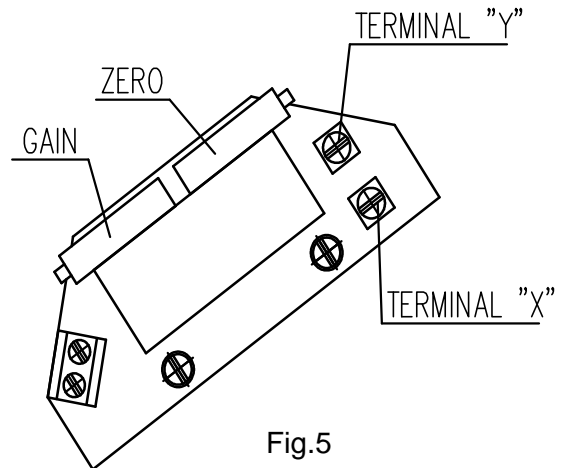

Fig.5
##### 4.4.1 EPV – the 2-wire version (Fig. 5,5a)
- Adjust the resistive transmitter according to the previous chapter. The resistance is to be metered on the terminals X-Y (Fig. 5,5a). The used transmitter resistance is 100  $\Omega$ .
- Turn the adjusting trimmer ZERO (Fig. 5,5a) to adjust the output current signal rate measured on the terminals 81-82 to 4mA.
- Turn the adjusting trimmer GAIN (Fig. 5,5a) to adjust the output current signal rate measured on the terminals 81-82 to 20mA